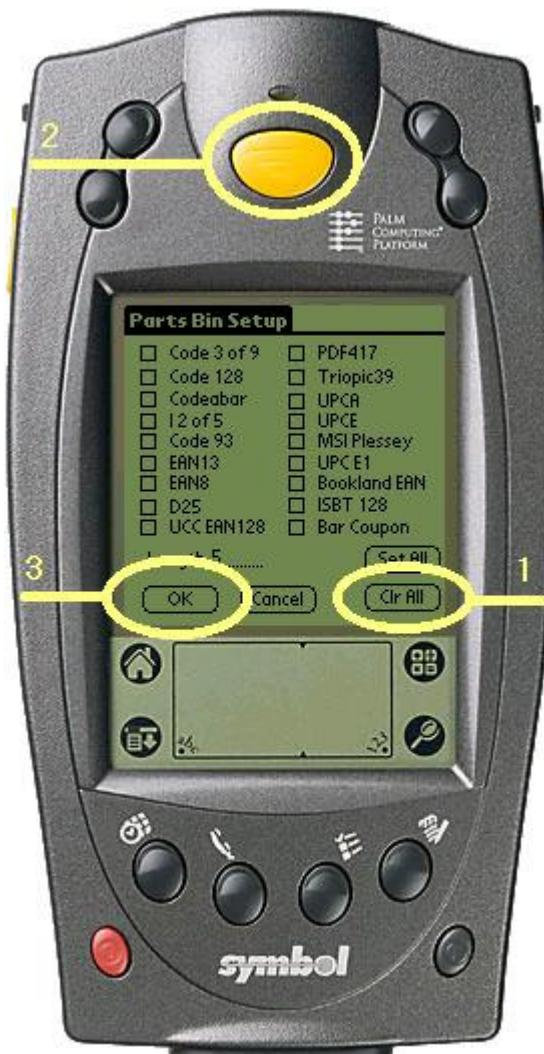

FIGURE 15. PARTS BIN SETUP MENU
Press the Clr All button (see figure 15, item 1 below).
Then scan a sample pick ticket barcode by pressing the barcode scan button (see figure 15, item 2 below), and press the OK button (see figure 15, item 3 below).